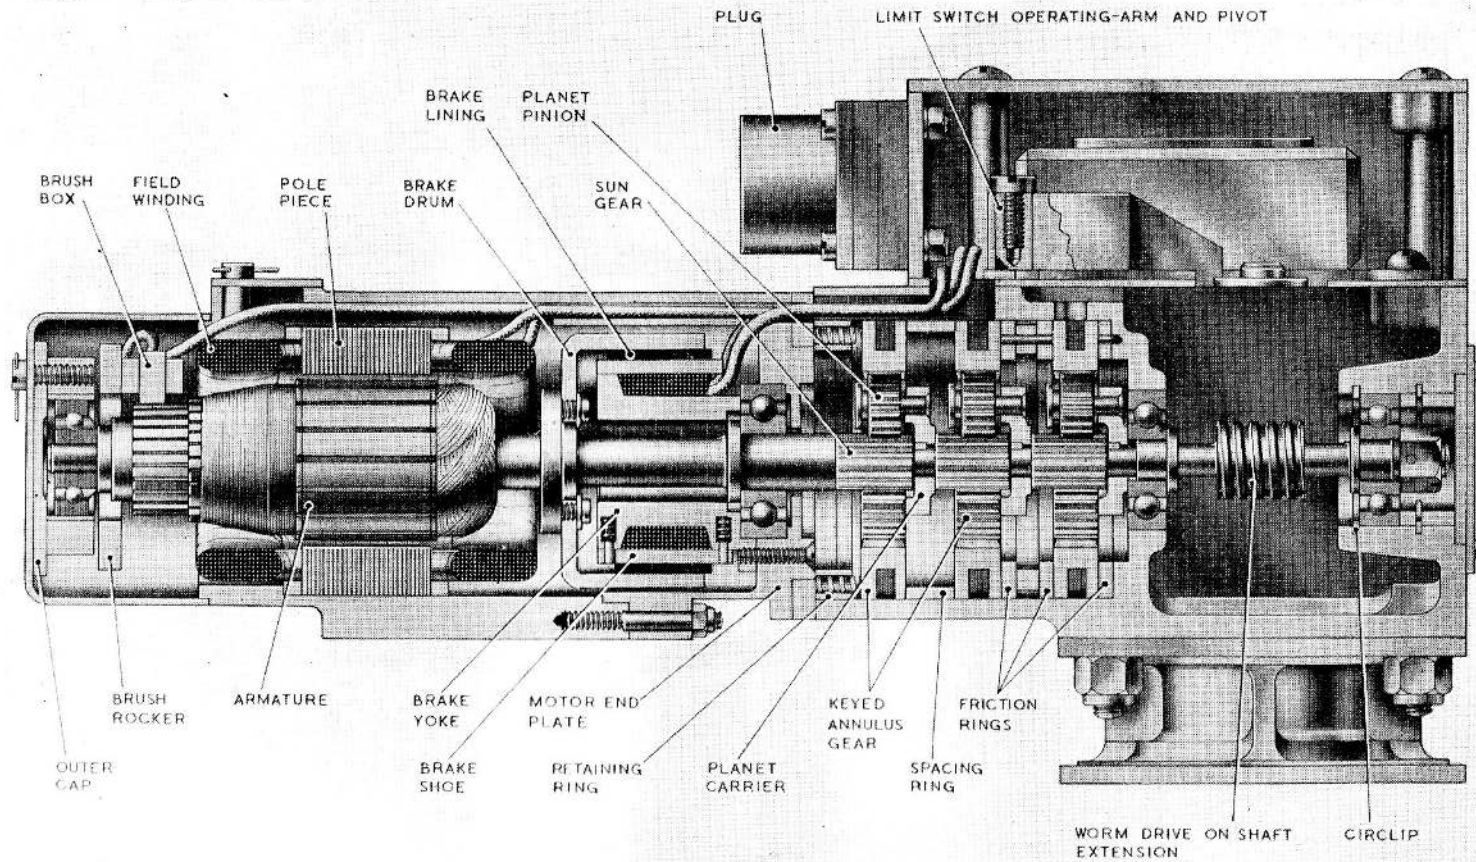

Fig. 2. Sectional view of actuator
**Motor and brake (fig. 2)**
**Gearbox and clutch (fig. 2)**